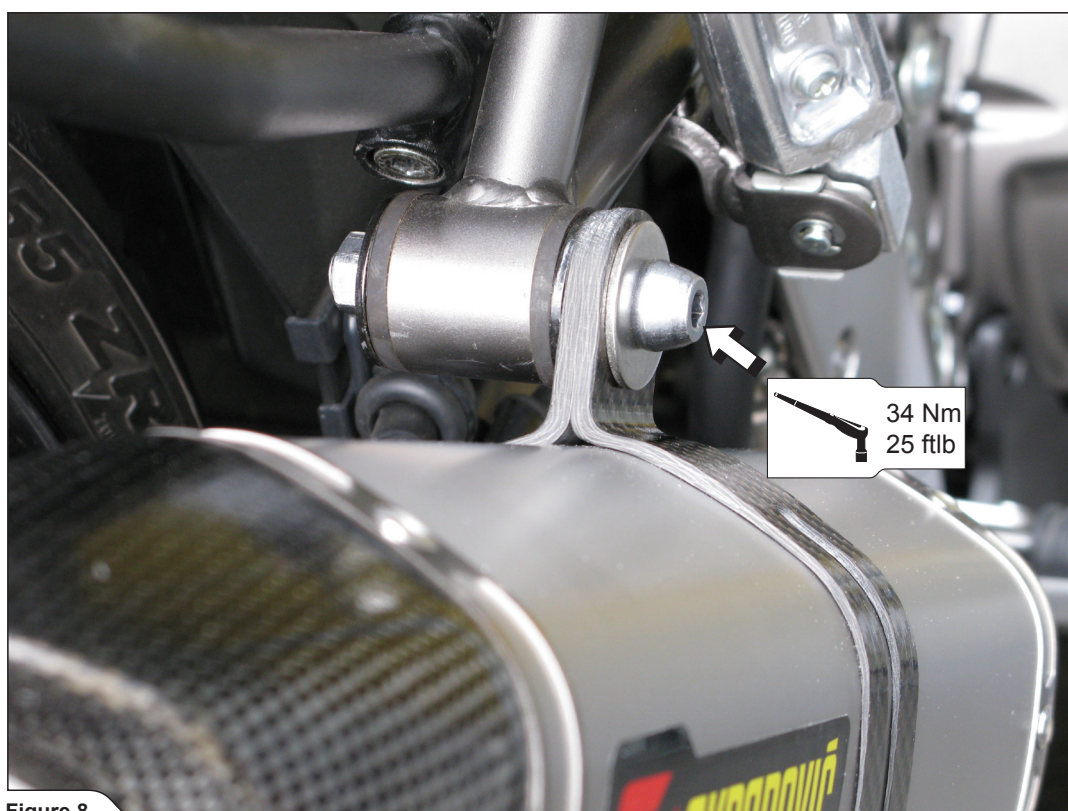

Figure 8
4. Align the muffler in respect to the motorcycle and tighten the carbon fiber clamp using original bolt, nut and Akrapovič washer (**Figure 8**).